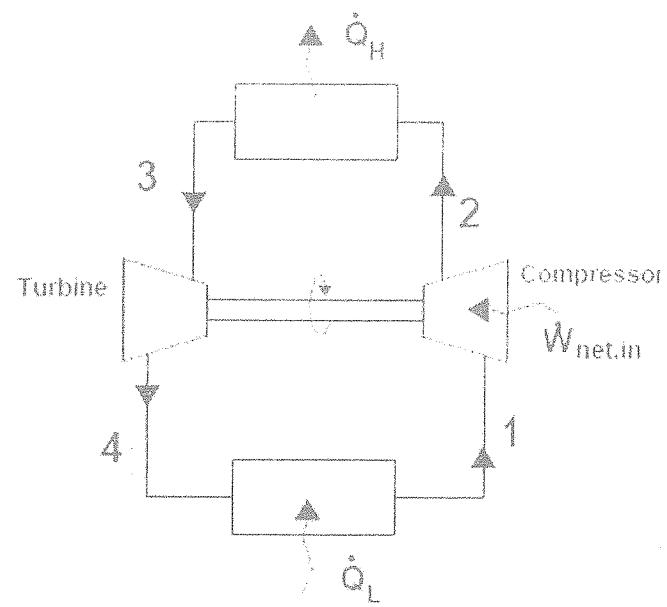

Figure Q3
b) Figure Q3 shows an ideal air refrigeration cycle. Temperature and pressure of air at the inlet of the compressor are 37 °C and 100 kPa, and the temperature of air at the outlet of turbine is at 17 °C. The compressor has a compression ratio of 15:1. The heat load on the system is 10 kW. Cp of air at room temperature is 1.005 kJ/kgK. Polytropic index for the compression and expansion processes may be taken as 1.4.